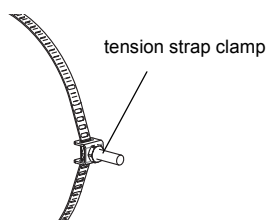
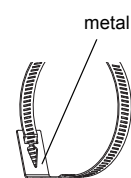

Fig. 9.11: Tension strap with tension strap clamp
Fig. 9.12: Tension strap with metal spring
- Insert the tension strap into the tension strap clamp (see Fig. 9.11).
- Insert the tension strap into the tension strap clamp and the metal spring (see Fig. 9.11 and Fig. 9.12).